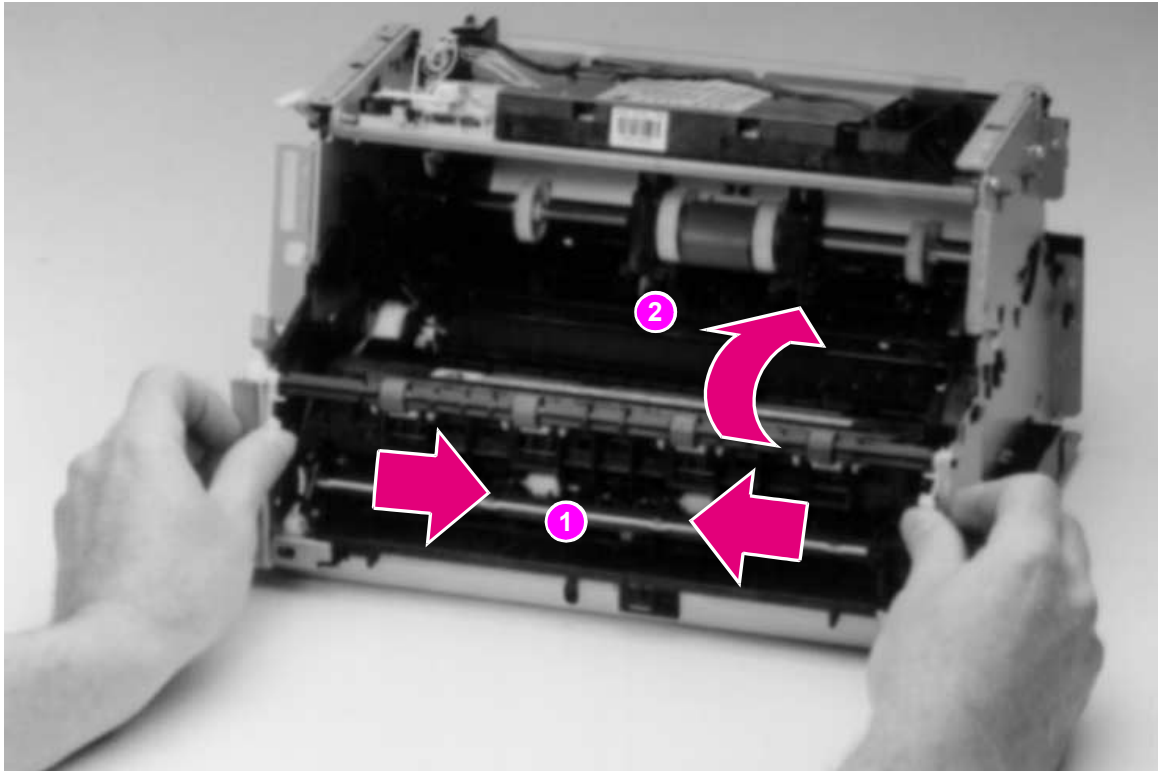

Figure 6-8 Exit Roller removal
- 2 Grasp both tabs at the lower ends of the Exit Roller bushings and pull inward. This will release the tabs from the printer chassis (Figure 6-8, callout 1).
- 3 Rotate the tabs 90 degrees, clear of the printer chassis (Figure 6-8, callout 2).